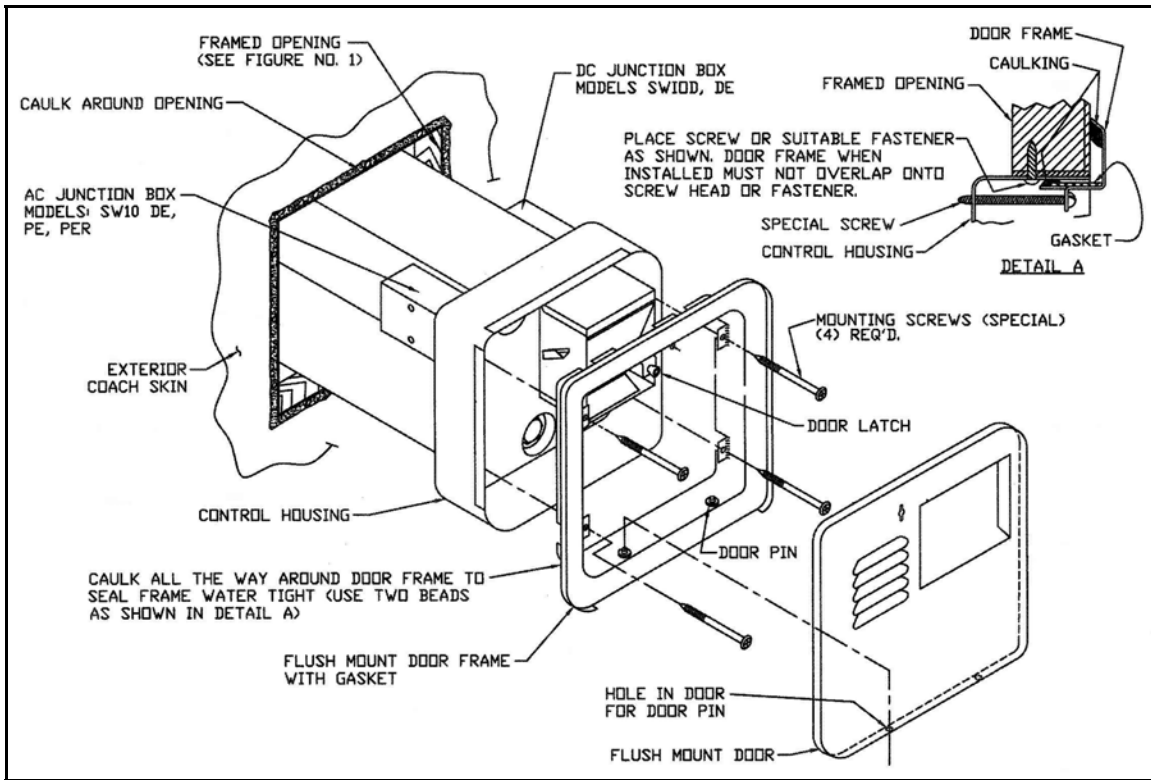

Figure 2
INSTALLATION USING FLUSH MOUNT FRAME & DOOR (See Figure 2 for Illustration)
B. Refer to Figure 2 for location of D.C. junction box on models SW10D and SW10DE. Refer to Figure 4 and 5 for location of D.C. junction box on models SW10DM and SW10DEM.
B. Refer to Figure 2 for location of A.C. junction box on model SW10DE. Refer to Figure 5 for A.C. junction box on model SW10DEM.